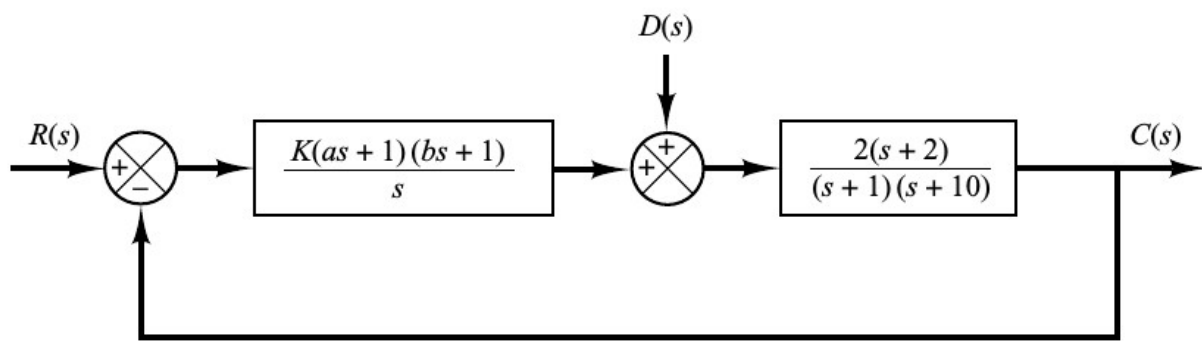

Figure 8-71
5) B-8-2. Consider the system shown in Figure 8-71. Assume that disturbances $D(s)$ enter the system as shown in the diagram. Determine parameters K , a , and b such that the response to the unit-step disturbance input and the response to the unit-step reference input satisfy the following specifications: The response to the step disturbance input should attenuate rapidly with no steady-state error, and the response to the step reference input exhibits a maximum overshoot of 20% or less and a settling time of 2 sec.